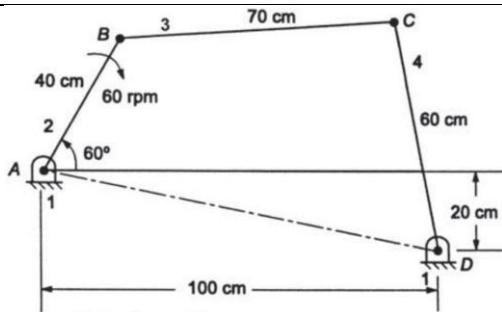

Fig.5b
b) The crank AB of a four-bar mechanism shown in Figure 5b rotates at 60 rpm clockwise. Determine the relative angular velocities of the coupler to the crank and the lever to the coupler. Find also the rubbing velocities at the surface of pins 25 mm radius at the joints B and C.